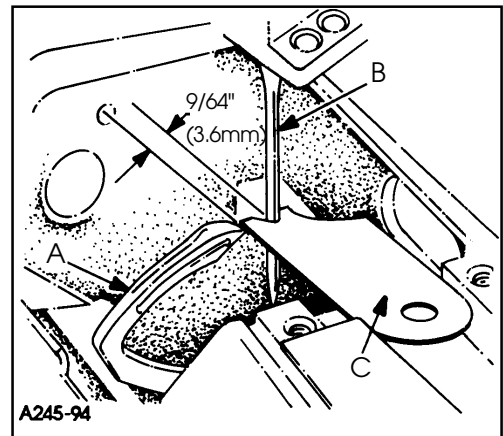
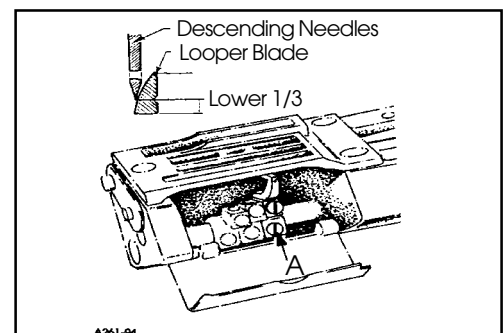

FIG. 6
FIG. 7
Insert a new set of needles, type and size specified. Always adjust the looper (A, Fig. 6) for the left needle first. Set the looper so that the distance from the center of the needle (B) to the point of the looper (A) is $9/64"$ (3.6mm) when the looper is at its farthest position to the left. Looper gauge (C) No. 21225-9/64 can be used advantageously in making this adjustment. If adjustment is required, loosen screw (A, Fig. 7) in looper holder, permitting movement in either direction to attain the $9/64"$ (3.6mm) dimension as shown in Fig. 6. Retighten screw (A, Fig. 7). Repeat for other needles and loopers.
Rotate handwheel in operating direction to assure that the looper point passes to the rear of the needle to touch but not deflect. This adjustment can be made by loosening screw (A, Fig. 7) in looper holder. Looper holder can be moved front to back to attain looper to needle setting. Always check the $9/64"$ (3.6mm) looper gauge setting after setting the looper to the back of the needle, and conversely, always check the setting of the looper to the back of the needle after setting the $9/64"$ (3.6mm) looper gauge.